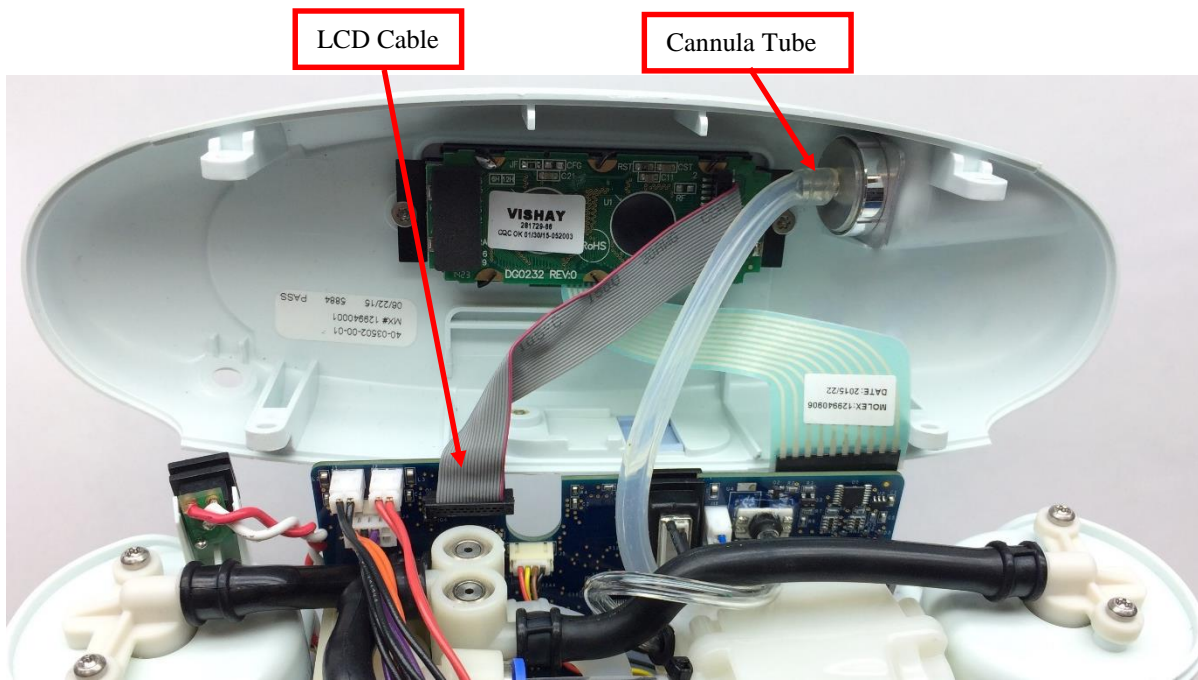

Figure 4: Remove cannula tube and LCD cable from user interface panel
3. Gently unplug the cannula tube and the LCD cable from the user interface panel (Figure 4). Remove the user interface panel.
1. With the new tubing fully installed, the user interface panel can now be replaced. Plug the LCD cable back into the motherboard (Figure 4). *Note orientation of red wire.* Re-attach the cannula tubing to the cannula connector.